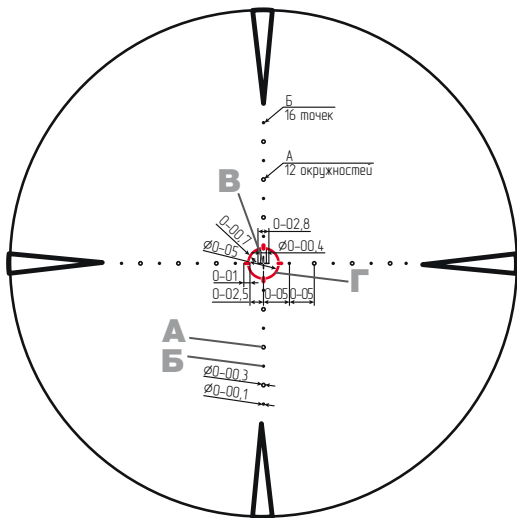

Figure 5
- angle measuring scale consists of 12 circles “A” and 16 points “Б” (Figure 5);